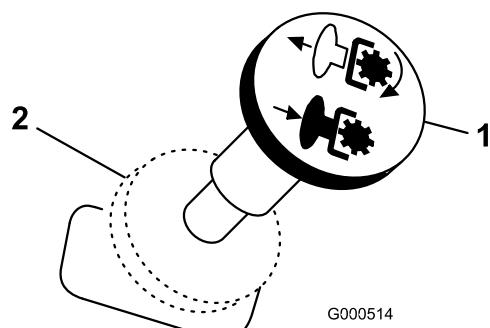

Figure 10
- Push the PTO to the off position (Figure 10).